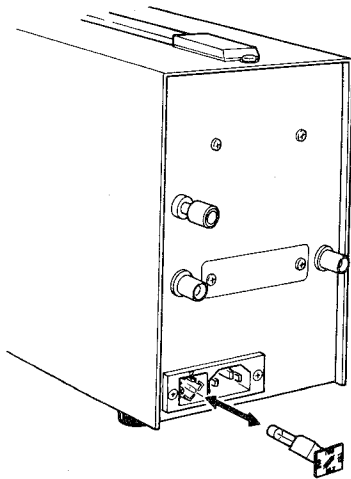

Figure 9— Replacing the e.
(3) Replacing the fuse (see Figure 9)